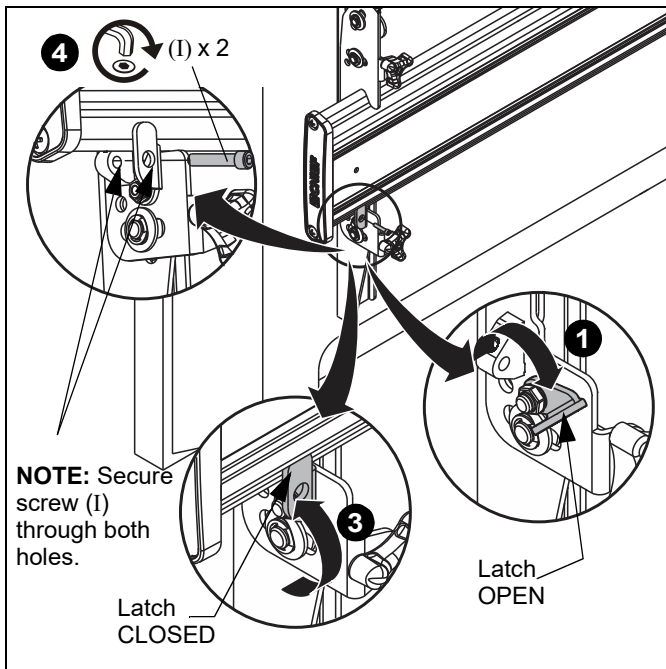

Figure 7
1. Ensure that the latch mechanisms on interface brackets (J and K) are already raised to the OPEN position. (See Figure 7)
2. While supporting both sides of display, lower display onto mounting rail, hooking top of interface brackets onto top of mounting rail. (See Figure 7)
3. Raise latch on interface bracket and close into place against mounting rail. (See Figure 7)
4. Fasten latch into place using one 1/4-20 x 1-1/4" socket head screw (I). (See Figure 7)
NOTE: Socket head screws (I) must engage through both holes to be fully secured. (See Figure 7)